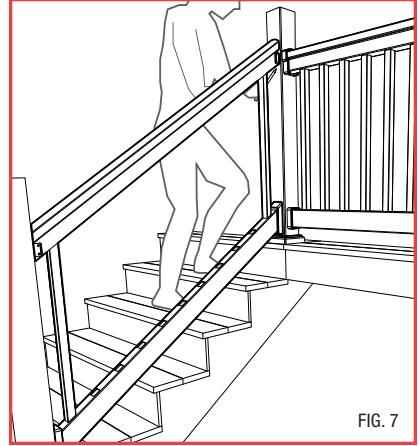

FIG. 7
10. Determine the location of the top rail metal brackets (marked "T"). Insert balusters in the first and last holes of the bottom rail. (Fig. 7) Align top rail over the balusters and install. Ensure the top rail is fully nested and level with the bottom rail. Position the top rail metal brackets on the rail and mark the bracket locations on each post.